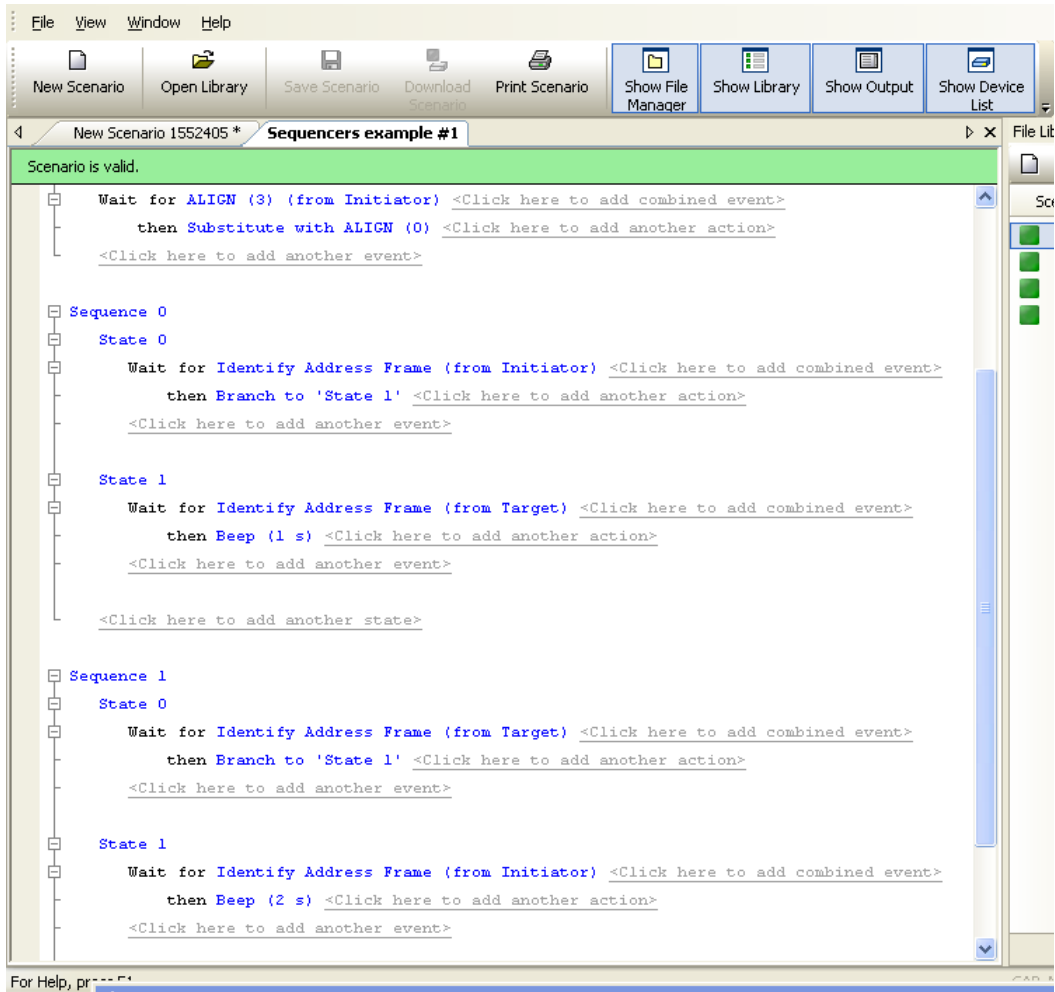

Figure 5.44 Example 7: Sequence Area of Scenario
- Step 18** In the File menu, select **Save Scenario** to save the scenario (Figure 5.44).